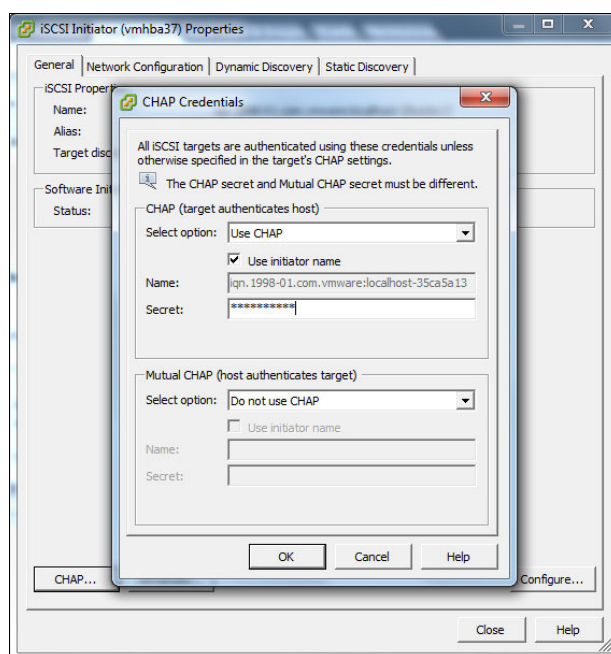

Figure 5-15 CHAP credentials
5. Select the preferred settings and enter the password, as shown in Figure 5-15.
The IBM Storwize storage system supports only one-way CHAP with VMware hosts until release 7.7. Therefore, select the option **Do not use CHAP** in the Mutual CHAP field, as shown in Figure 5-15.